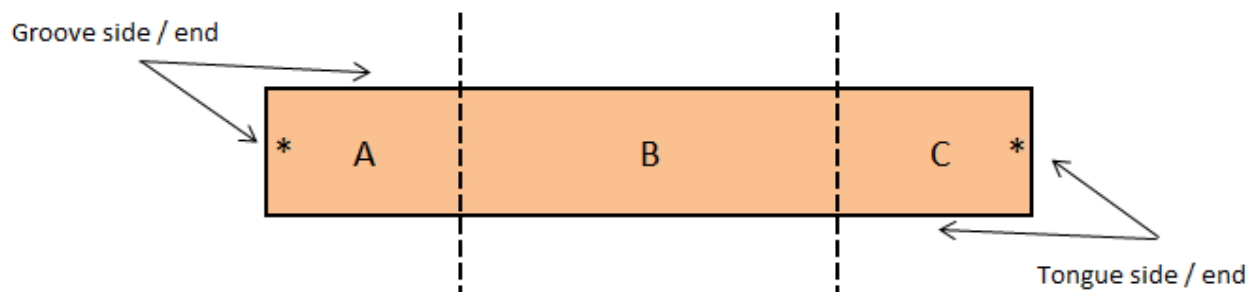

Figure 2 - Plank Layout
2. Cut a minimum of 6" (152.4 mm) off of both ends (Part A and C) of the laminate plank and use a minimum 12" (304.8 mm) from the center (Part B). See Figure 2.